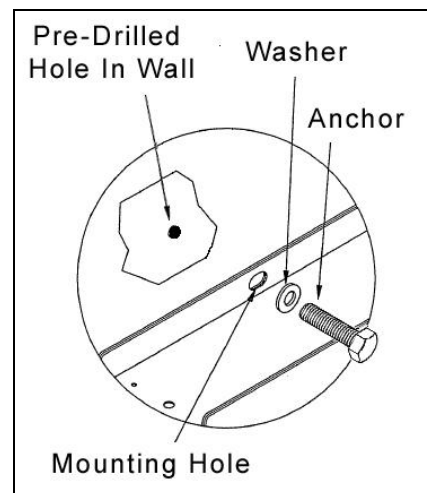

Figure 6: Wall Mounting
2. Secure the display to the wall by attaching mounting hardware through all holes on the top and bottom rear flanges of the display to a pre-drilled hole in the wall (**Figure 6**).